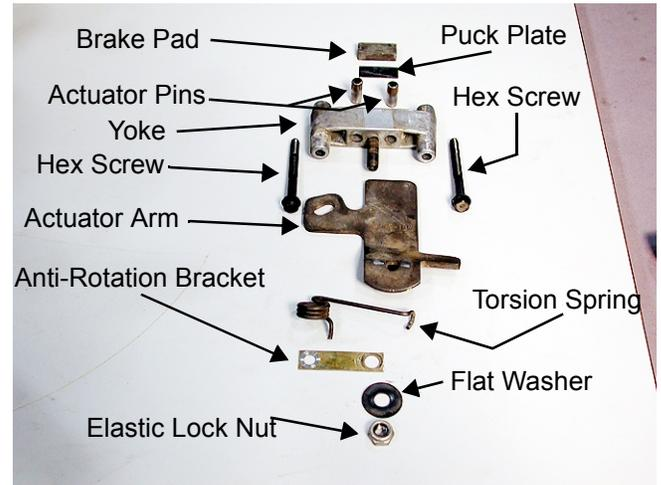

Figure 7
- Disassemble the brake assembly using a 1/2 in. socket. See Figure 7.